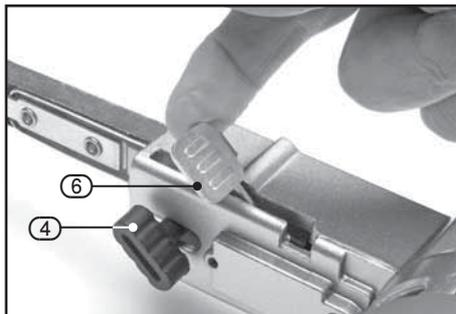
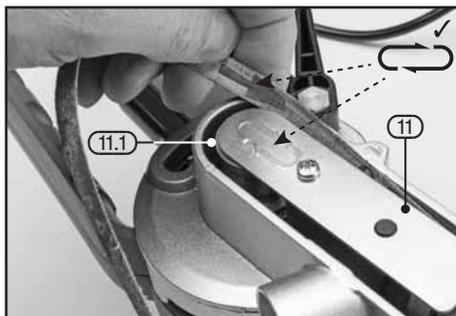

FIG.5
FIG.6
8.2 FITTING OR REPLACING THE SANDING BELT – FIGS.5 – 7
- Pull the belt release lever (6) (located just above the belt tracking control knob (4)) upwards to release the tension on the belt. (Fig.5)
- Slide out the belt (1) to be replaced.
- Refit the required belt over the rear roller (11.1) of the sanding arm (11) and the roller on the sanding head (10) (Fig.6).